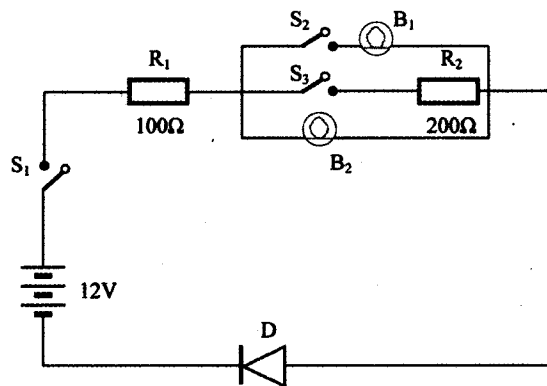

Figure 3
- (a) Connect the components provided as shown in the circuit in Figure 3.